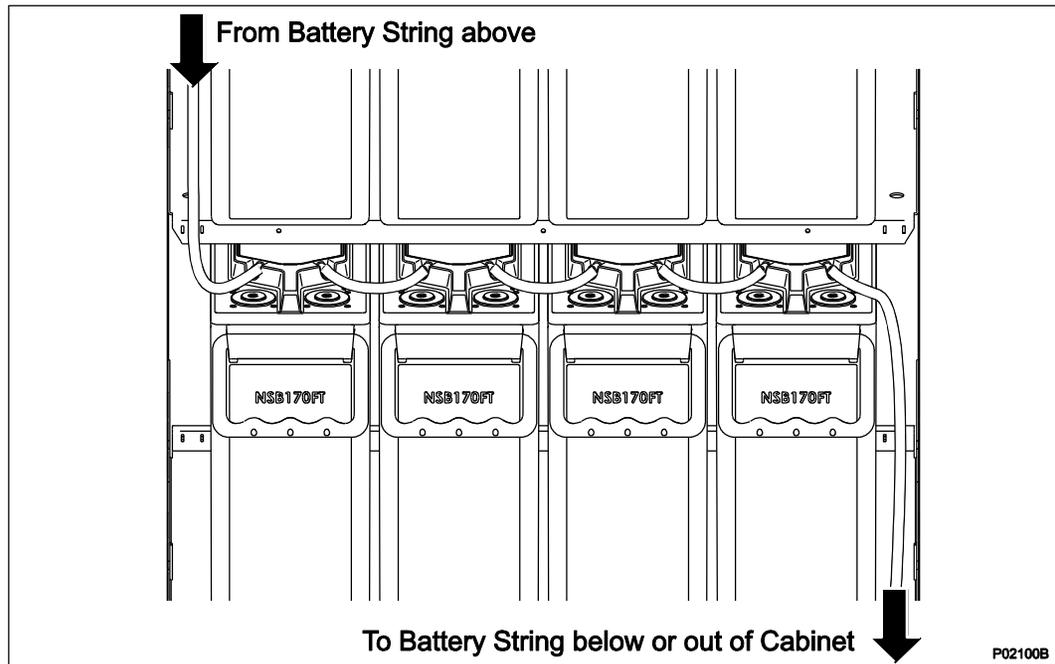
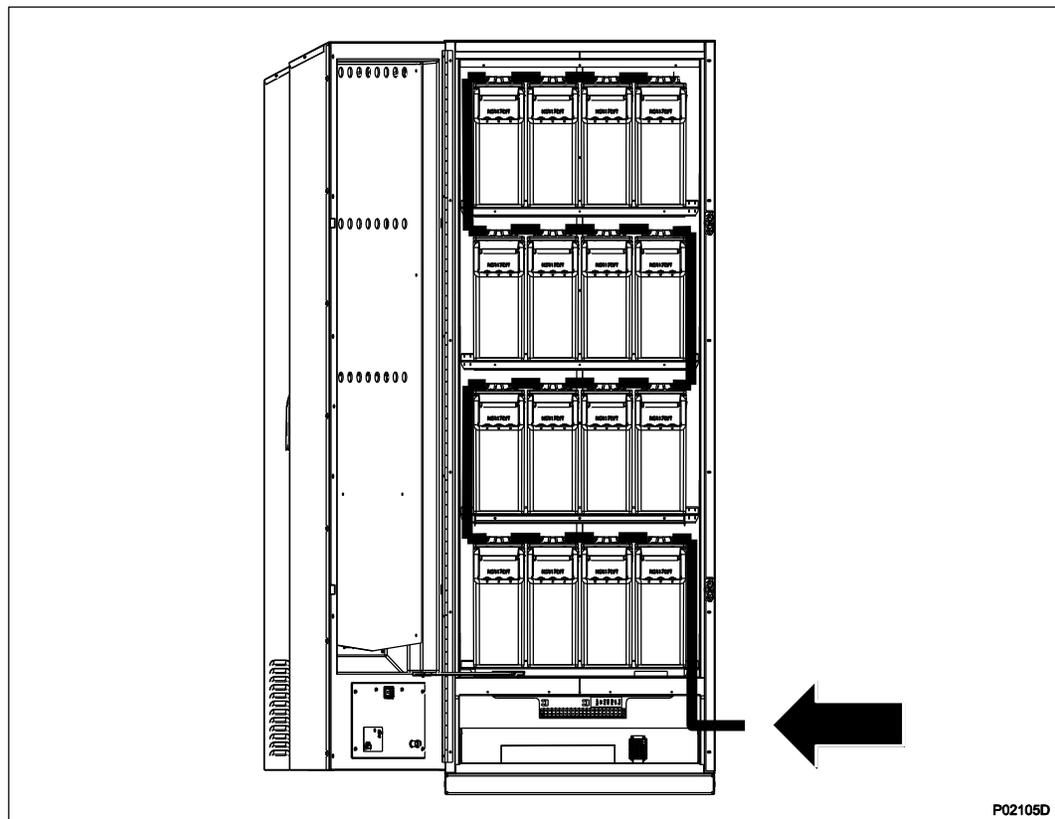

Figure 18 Connecting Gas Ventilation Tube
Figure 19 Routing Gas Ventilation Tube
2. Use the long tube and connect the gas ventilation tube between the shelves as in Figure 18 and Figure 19.